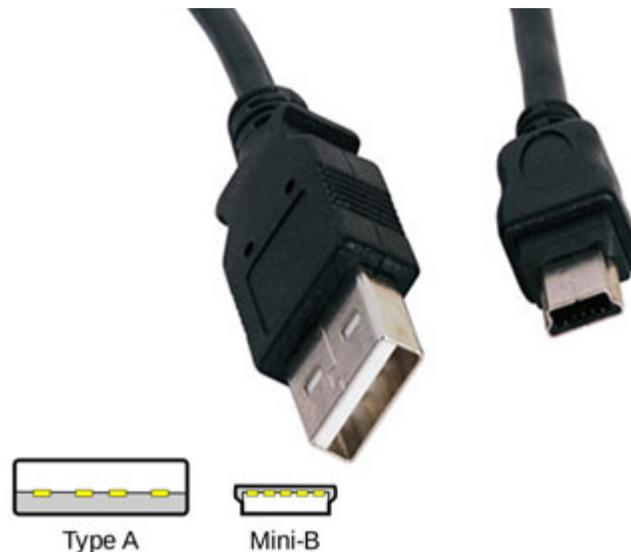

Figure 2. USB Cable (Type-A to Mini-B)
5. Connect a USB cable (Figure 2) between the Host PC and the EVM mini-USB port (**J27**).